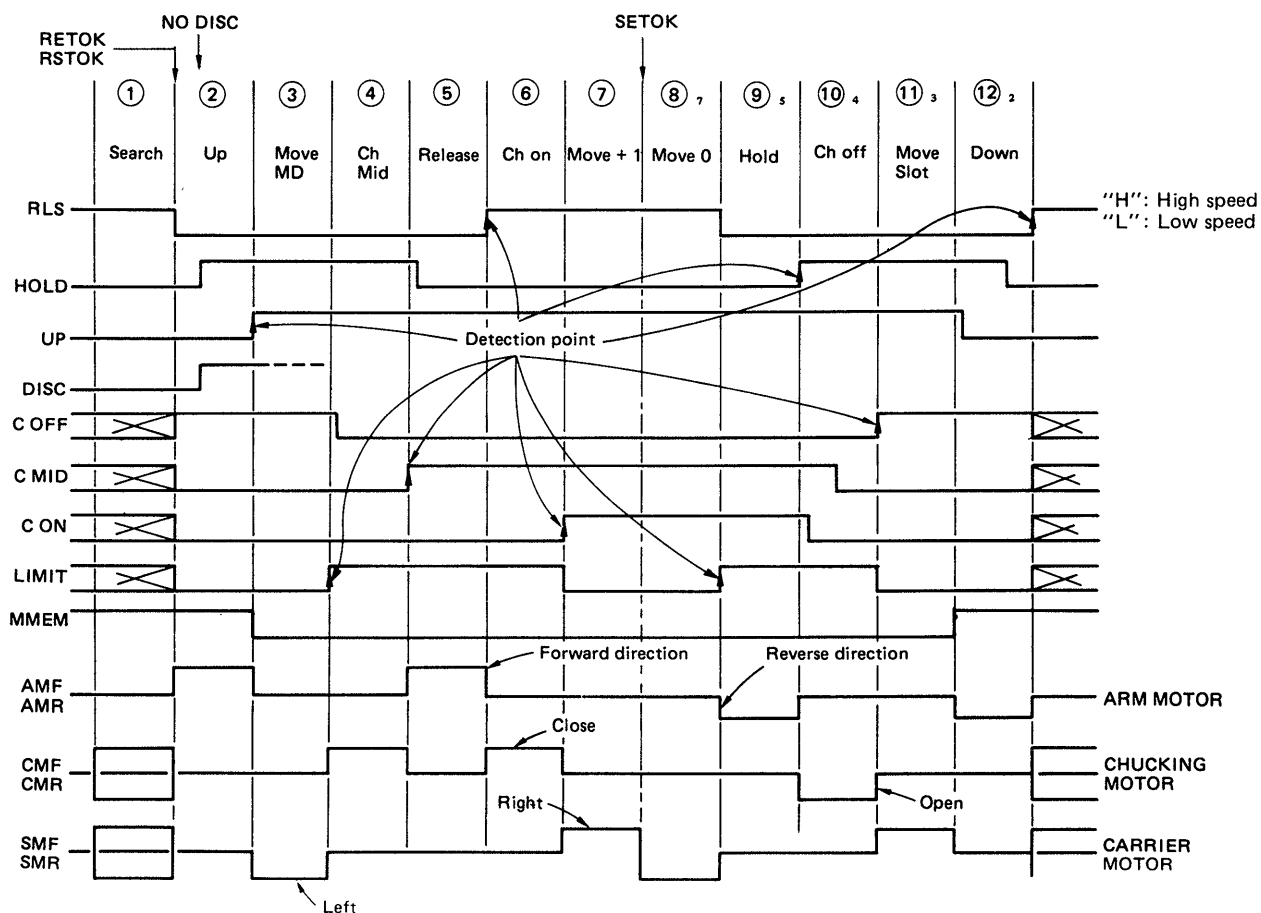

Fig. 5
C. Mechanism Operation Flow Chart (Numbers correspond to those in Fig. 5, Timing Chart.)